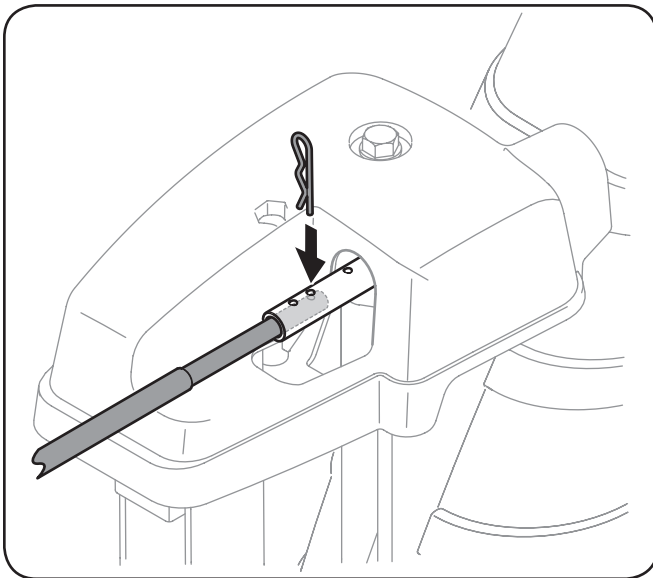

Figure 3-9
6. Push the chute control rod toward the control panel until the hole in the rod lines up with the middle hole in the chute control input and insert the cotter pin. See Figure 3-9.